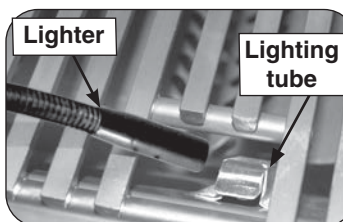

Fig. 29-2 Manual lighting via lighting tube
2. Insert either a burning long-barrel butane lighter or a burning long-stem match through the cooking grid opening to the top of the lighting tube (see Fig. 29-2). For backburners or infrared burners, hold the flame against the surface of the backburner/infrared burner. For sideburners, hold the flame against the burner.